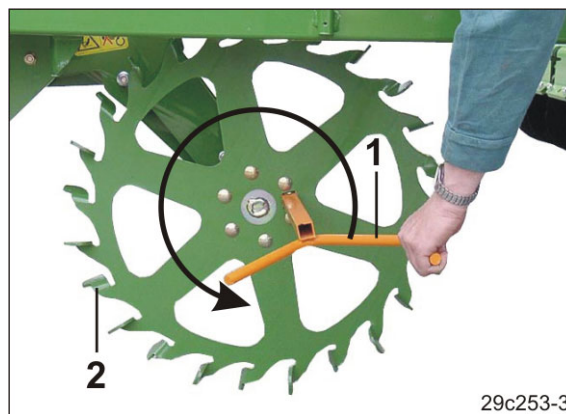

Fig. 130
8. Push the calibration crank handle (Fig. 130/1) onto the star wheel (Fig. 130/2).